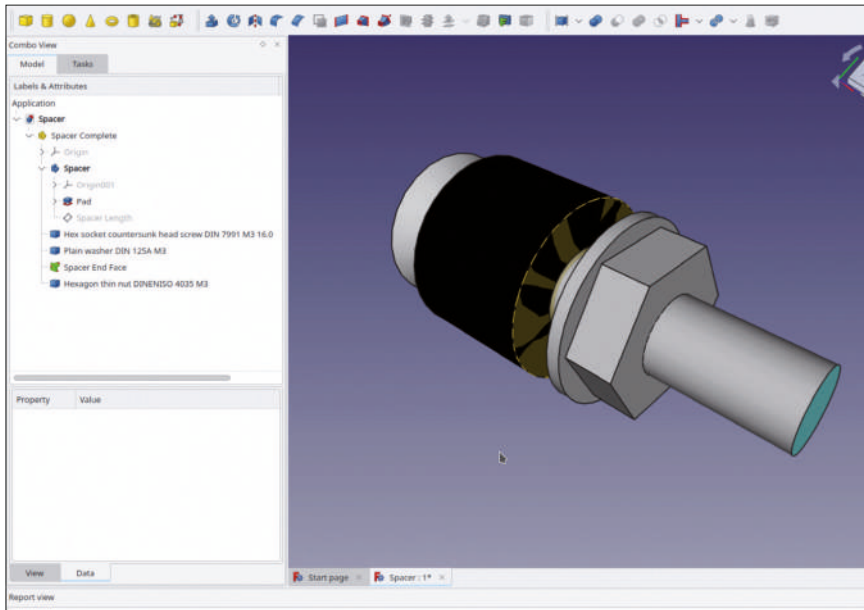

Figure 4-30
23. The associativity can be evaluated by changing the position of the datum plane 'Spacer Length'. In the tree view, double-click the datum plane, and change the attachment z offset to, for example, 5 mm. This time, the 3D view will not follow in live fashion. After closing the task window with the 'OK' button, there is still a recalculation needed in order to update the 3D view (Figure 4-30).